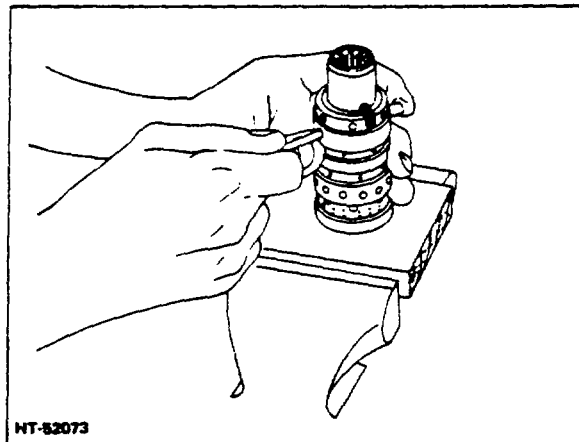

Figure 3-10. Loosening Spool Assembly
17. Holding the spool assembly, push the cross pin to loosen it from the spoolsleeve assembly (Fig 3-10). Remove the cross pin and set it aside.